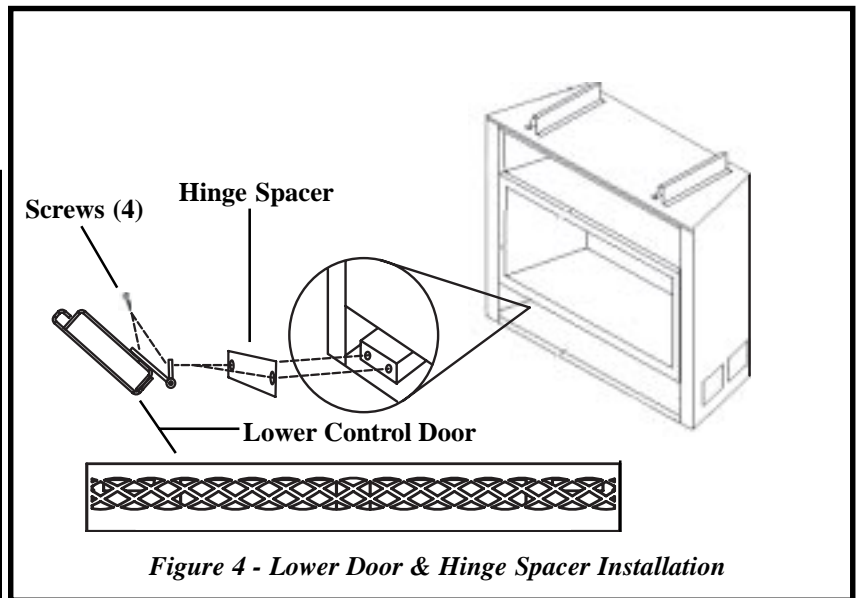

Figure 4 - Lower Door & Hinge Spacer Installation
6. Use enough “hinge spacers” to make lower door flush with face. (If marble or other non-combustible material is used, then the thickness of the marble, etc.. determines the thickness of spacers for lower control access door) (See Figure 4). Each spacer is approximately 1/16”.